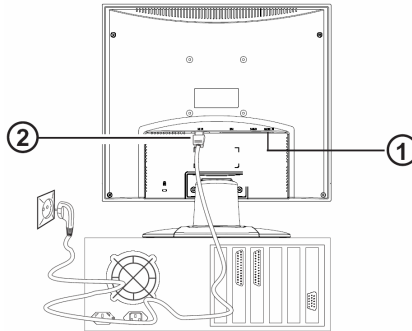

Figure 3. Connecting the monitor to the power source
If your computer is equipped with an audio output port, connect one end of the sound cable to the audio Input connector of the monitor (ⓐ in fig. 3) and the other end to the Line-Out connector of the computer.
Connect the separate power cable (② in fig. 3) to the Monitor and a grounded outlet.